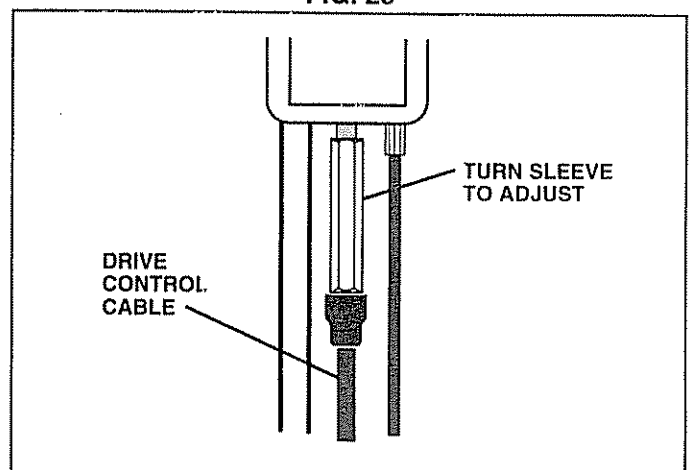

FIG. 24
- The drive control adjuster is the hex shaped fitting at the front of the drive speed control, where cable enters control box (See Fig. 24).